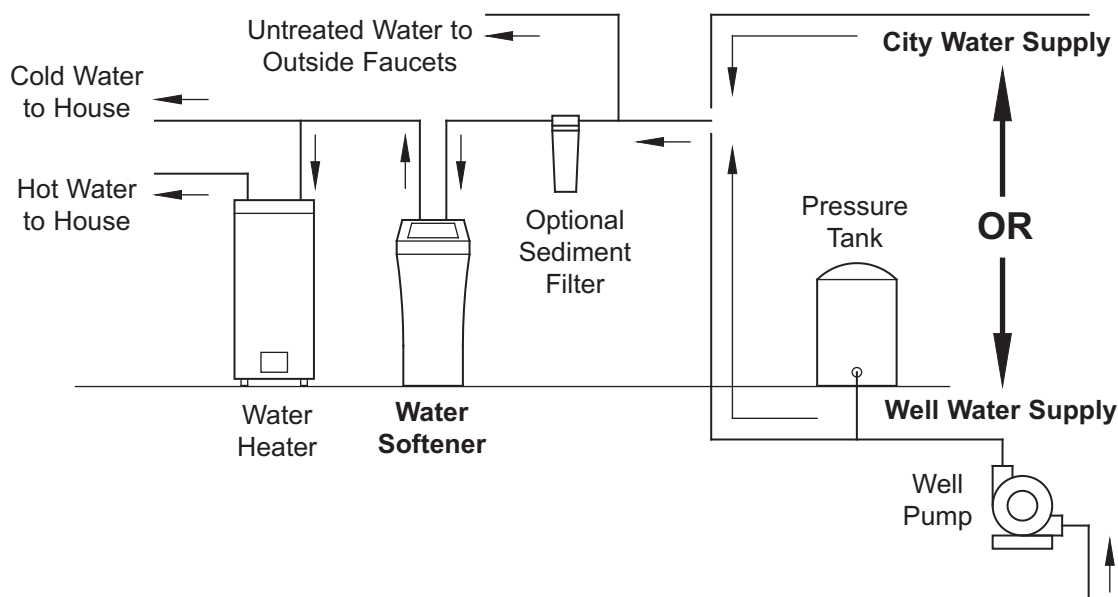

FIG. 3
- Always install the water softener between the water inlet and water heater. Any other installed water conditioning equipment should be installed between the water inlet and water softener (See Figure 3 below).